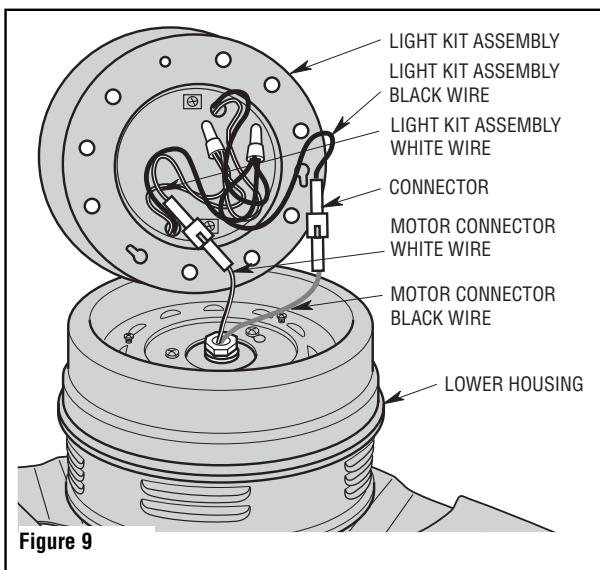

Figure 9
18. Engage the white wire connector of the light kit assembly with the white wire connector of the motor connector (Figure 9). Engage the black wire connector of the light kit assembly with the black wire connector of the motor connector. Make sure the connector latches are closed properly.